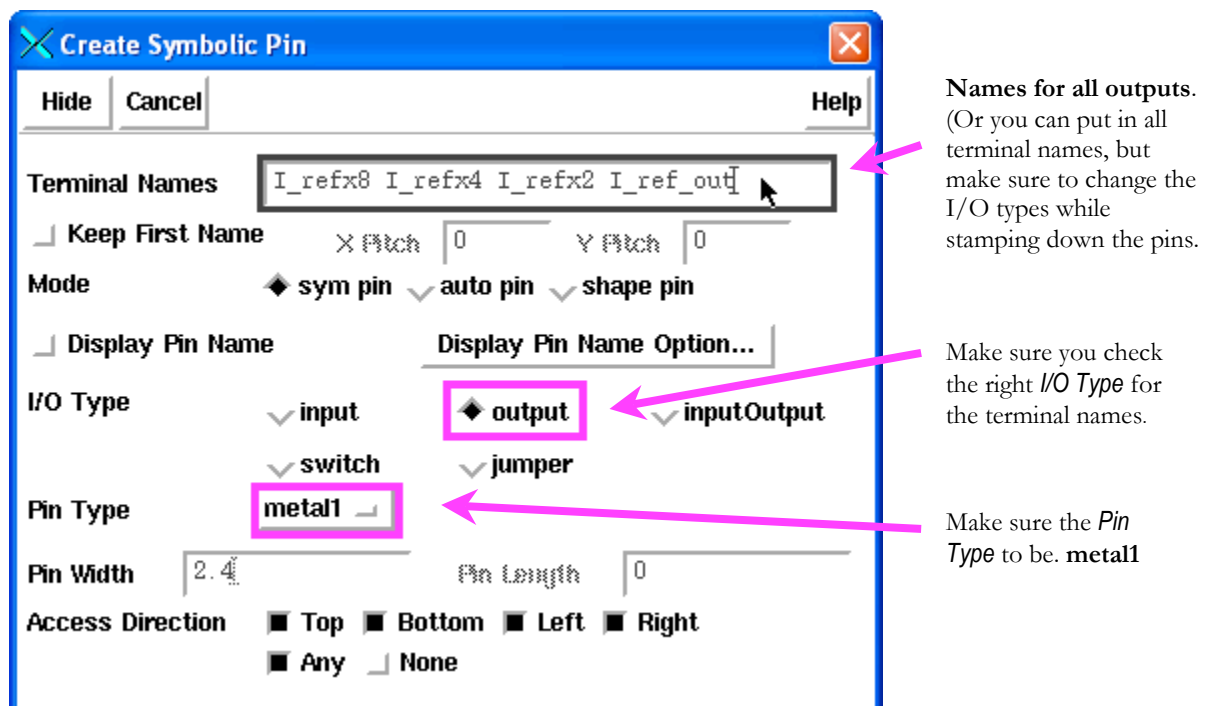

Figure 82: Adding the output pins.
22. To Create Input/Output Pins: go to *Create...Pin...* fill in the form as in Figure 82 for all the outputs. **Note: make sure the Pin type is METAL 1.**